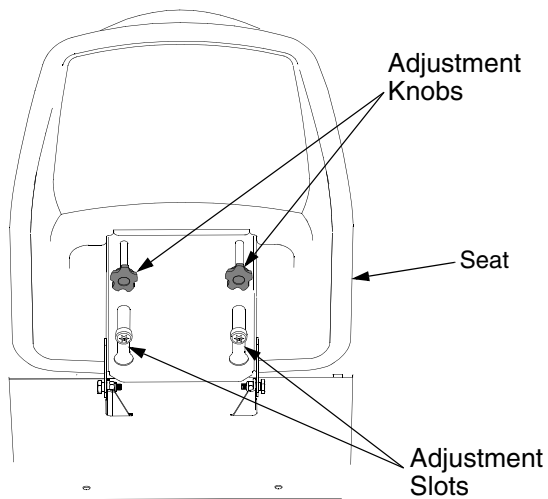

Figure 18
- Loosen the two adjustment knobs and slide the seat forward or backward in the adjustment slots to the desired position, then retighten the knobs. See Figure 18.